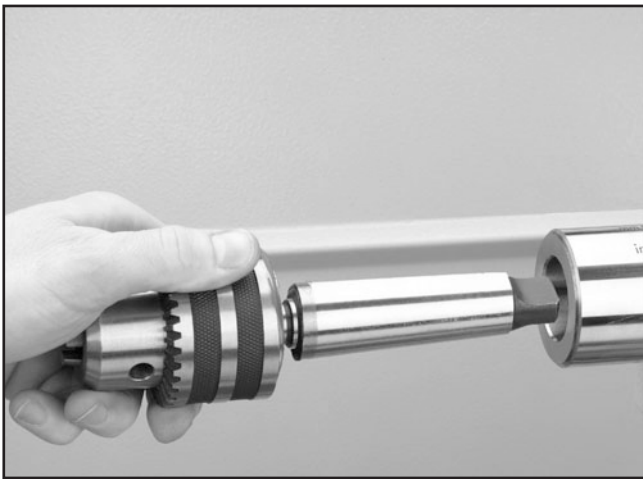
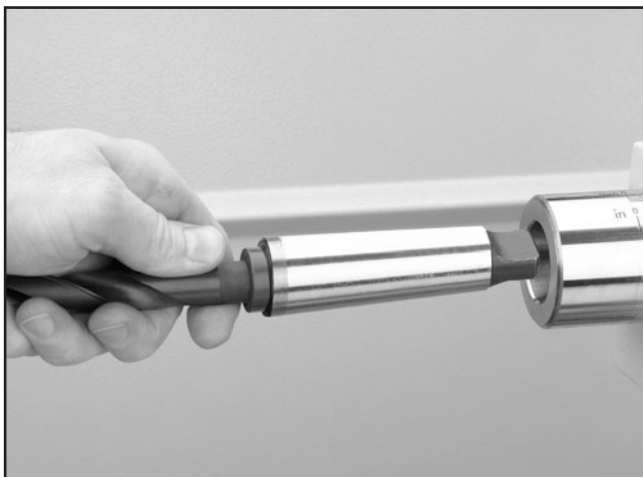

Figure 42. Typical tailstock chuck installation.
Figure 43. Typical tailstock tapered drill bit installation.
3. Insert a tapered drill arbor (**Figure 42**), or a tapered drill bit (**Figure 43**), into the quill until the taper is firmly seated and the tang is locked into the quill slot.